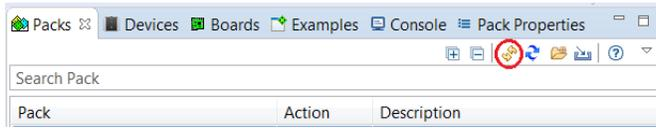

Figure 29. Refresh Pack after installation
5. After installation, click on the refresh icon with yellow arrows, which shows the text **Reload Packs in the CMSIS Pack root folder** when you hover over it with your cursor, in the Packs tab (as shown in Figure 29), to update your pack properties.